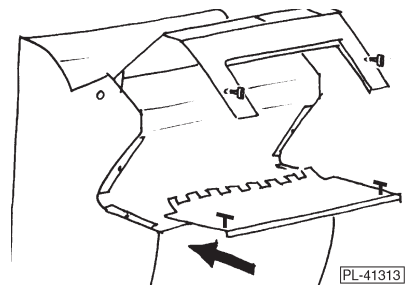

Fig. 18
2. Reassemble the Front Table (Fig. 18):